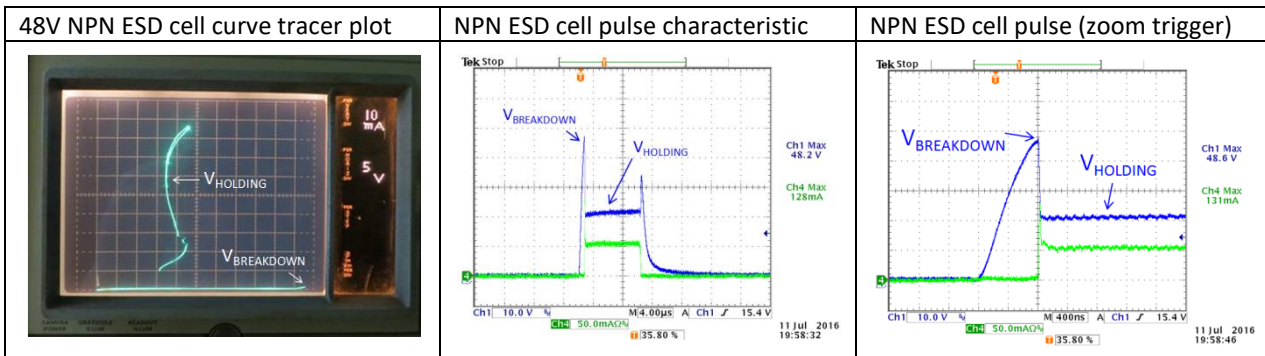

FIGURE 15
- NPN type ESD cells also show a latch snap-back behavior after breakdown, but their holding voltage is much higher compared to SCR ESD cells. See Figure 15.